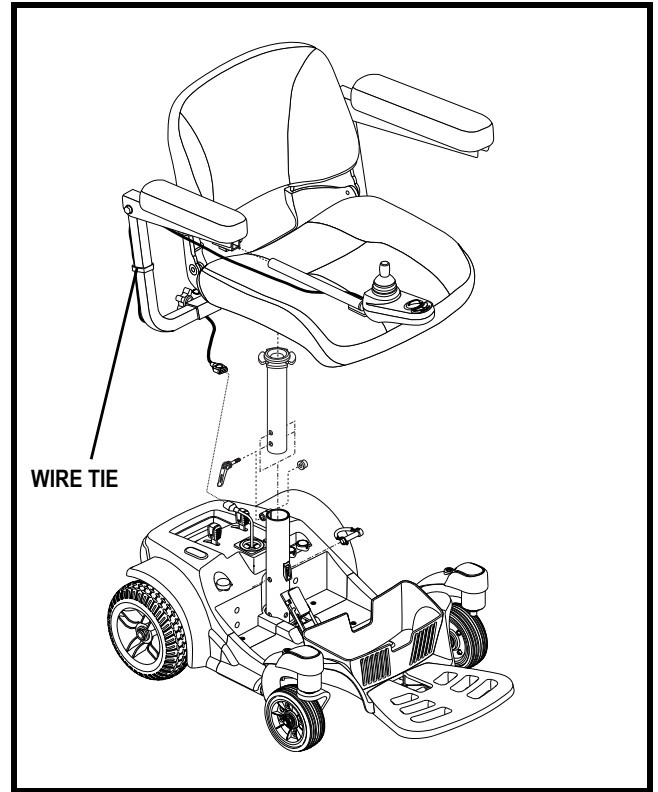

Figure 5. Seat Installation
2. Set the seat onto the seat pedestal. See figure 5.
5. Plug the controller harness connector into the power base. See figure 5.
6. Secure the controller harness to the armrest with wire ties. See figure 5.